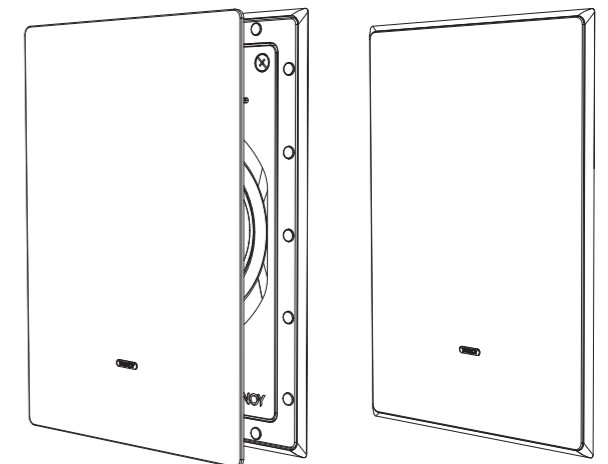

Fig. 15. Installing the Grille
1. Press the grille into the frame, where it will be held in place by magnets (Fig. 15).